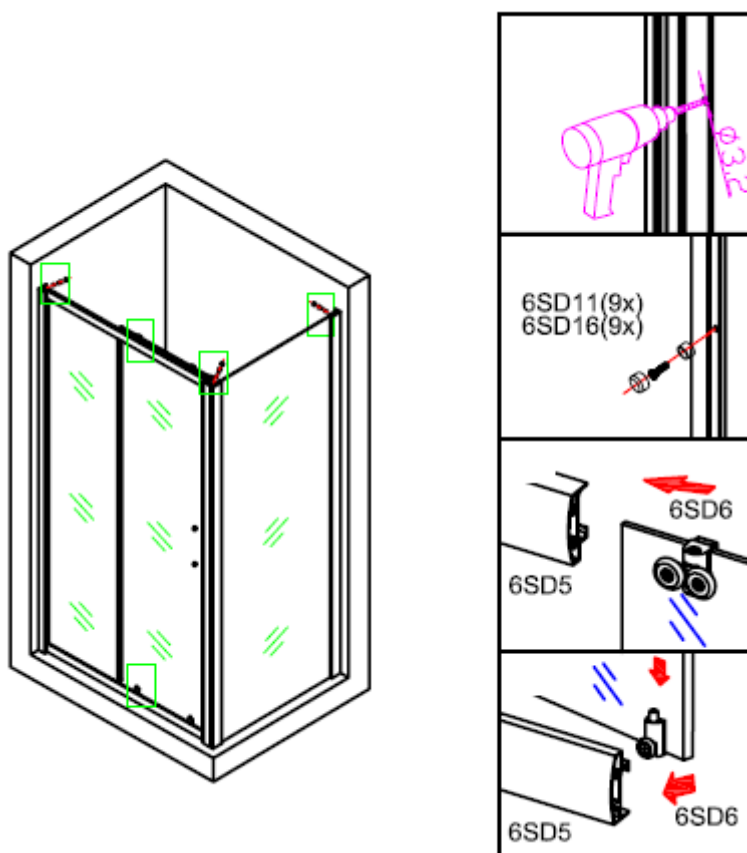

Figure 8
8. Fasten the wall profile with the fixed profile with screw(6SD11).Hang the top roller into the top rail profile and clip the bottom single roller into the bottom rail profile,as showed in figure 8.